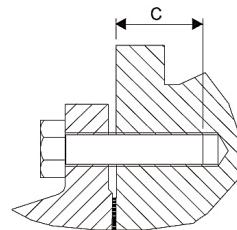

Fig. 7 | Thread reach C
- Screws according to ISO 4014 (see Fig. 7 and Table 3)